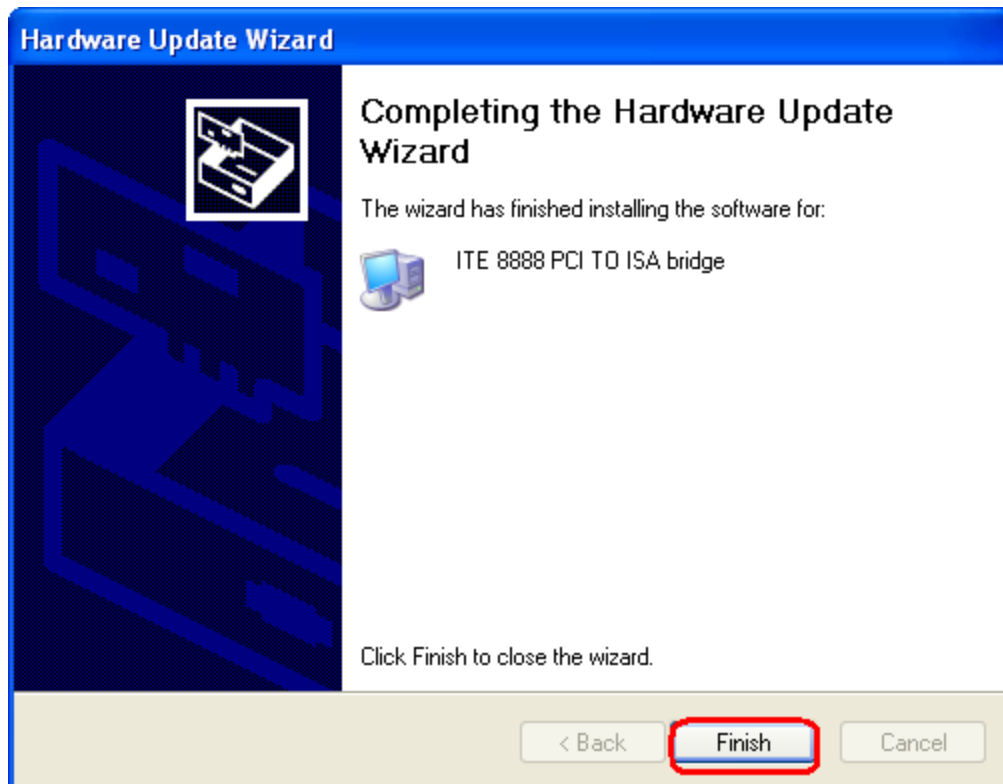

Figure 7-47: Other PCI Bridge Device Controller Driver Installation Complete
Step 12: When the driver is installed, the screen in **Figure 7-47** appears.
Step 13: Click the Finish tab in to complete the **Figure 7-47** installation.